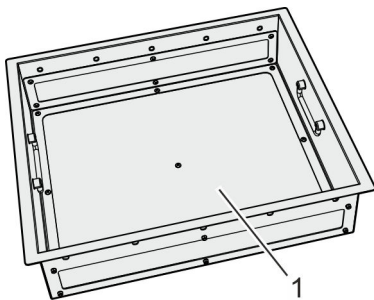

Fig. 86: Chip collection box, fine screen
12.▶ Clean the chip collection box (Fig. 86/1).